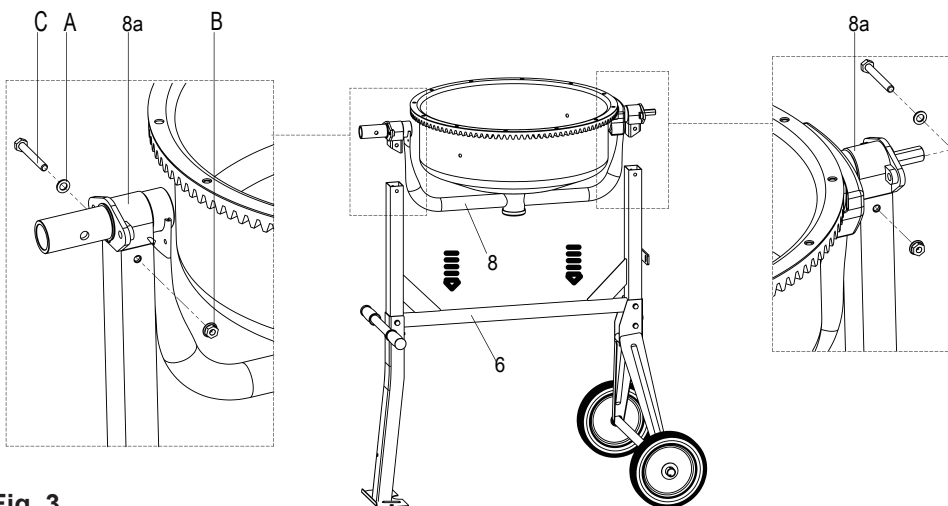

Fig. 3
1. Insert the brackets (8a) into the poles and place the drum arm (8) onto the stand (6).
2. Secure the connection with bolts (C), washers (A) and nuts (B) (Fig. 3).